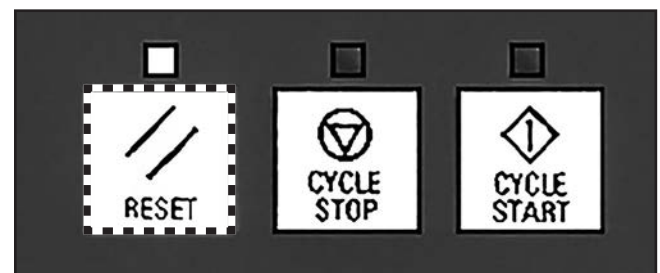

Figure 89. RESET key on MCP.
4. Press RESET key (see **Figure 89**) to extinguish PPU status area alarms.